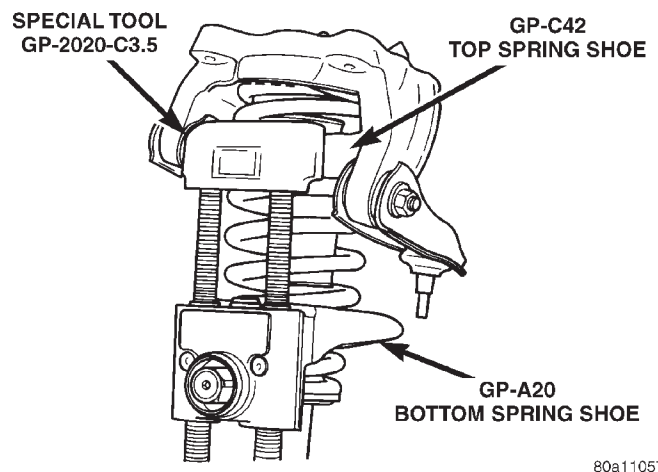

Fig. 18 Compressing Shock Absorber Coil Spring
(12) Compress shock absorber coil spring, using Professional Services Equipment Spring Compressor, GP-2020-C3.5 fitted with the GP-C42 top spring shoe and the GP-A20 bottom spring shoe (Fig. 18).